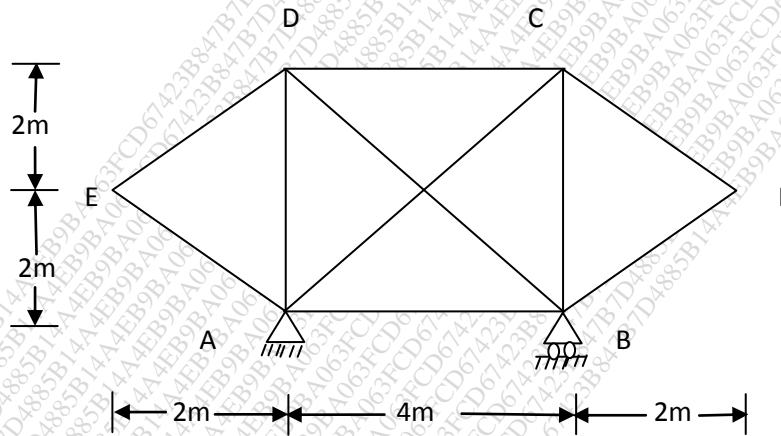

Fig.4
Q.5 In the plane braced frame shown in fig4 all the member have same cross sectional area at 800 mm^2 and are made of same material. The member AC in the frame was initially short by 2.5 mm -Determine forces in each member. 15